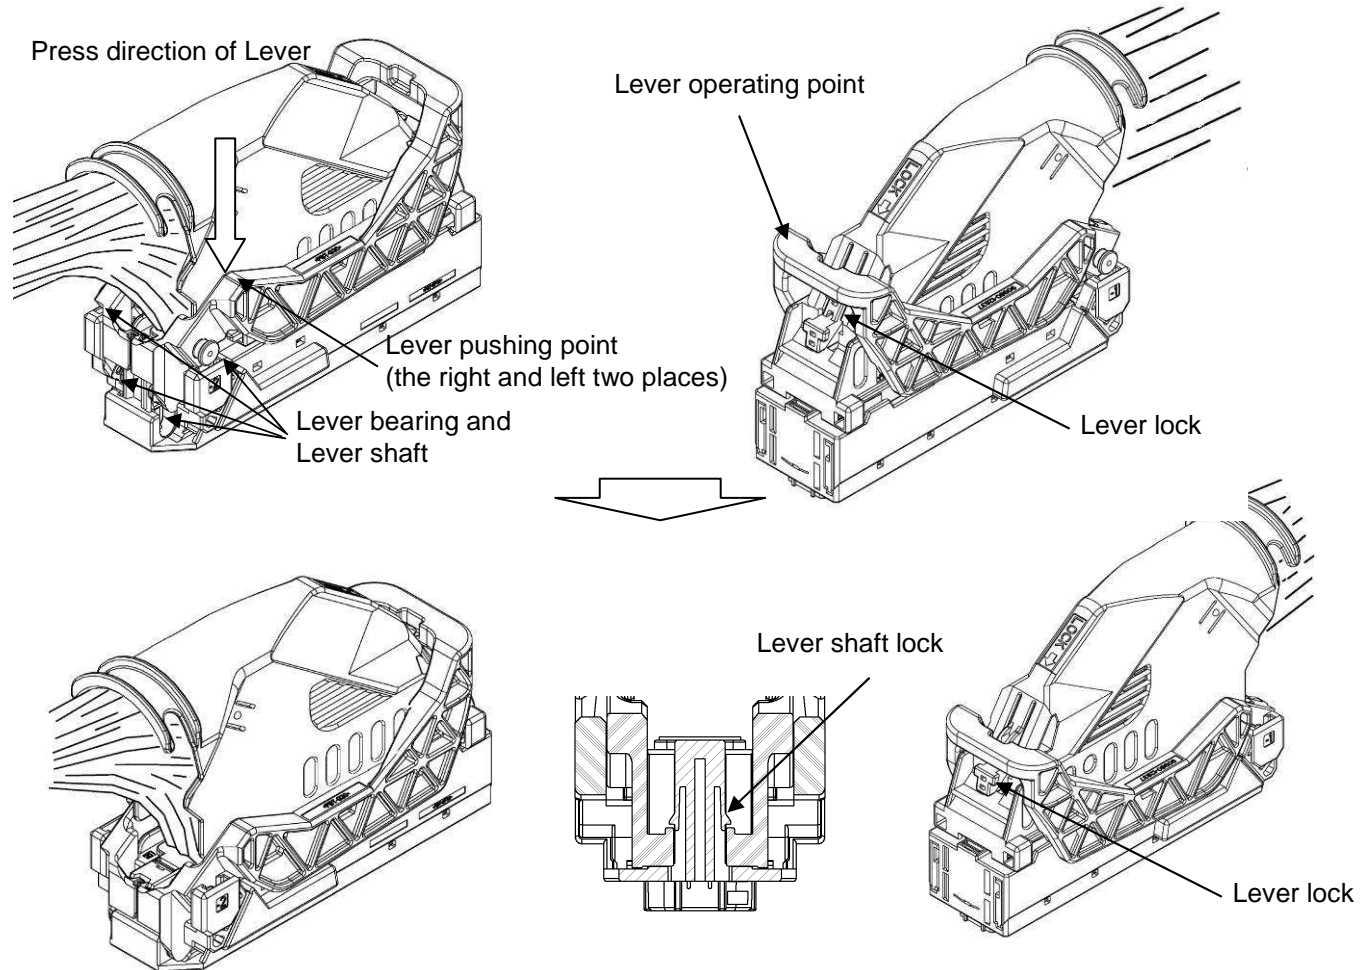

Fig.18
②After the lever shaft installation area pass the wire cover, fit the lever bearing of the female connector and lever shaft(four places), press the lever pushing point(two places) to press direction of lever as fig.18.
, please operate and ship in lever lock condition (Fig.18).